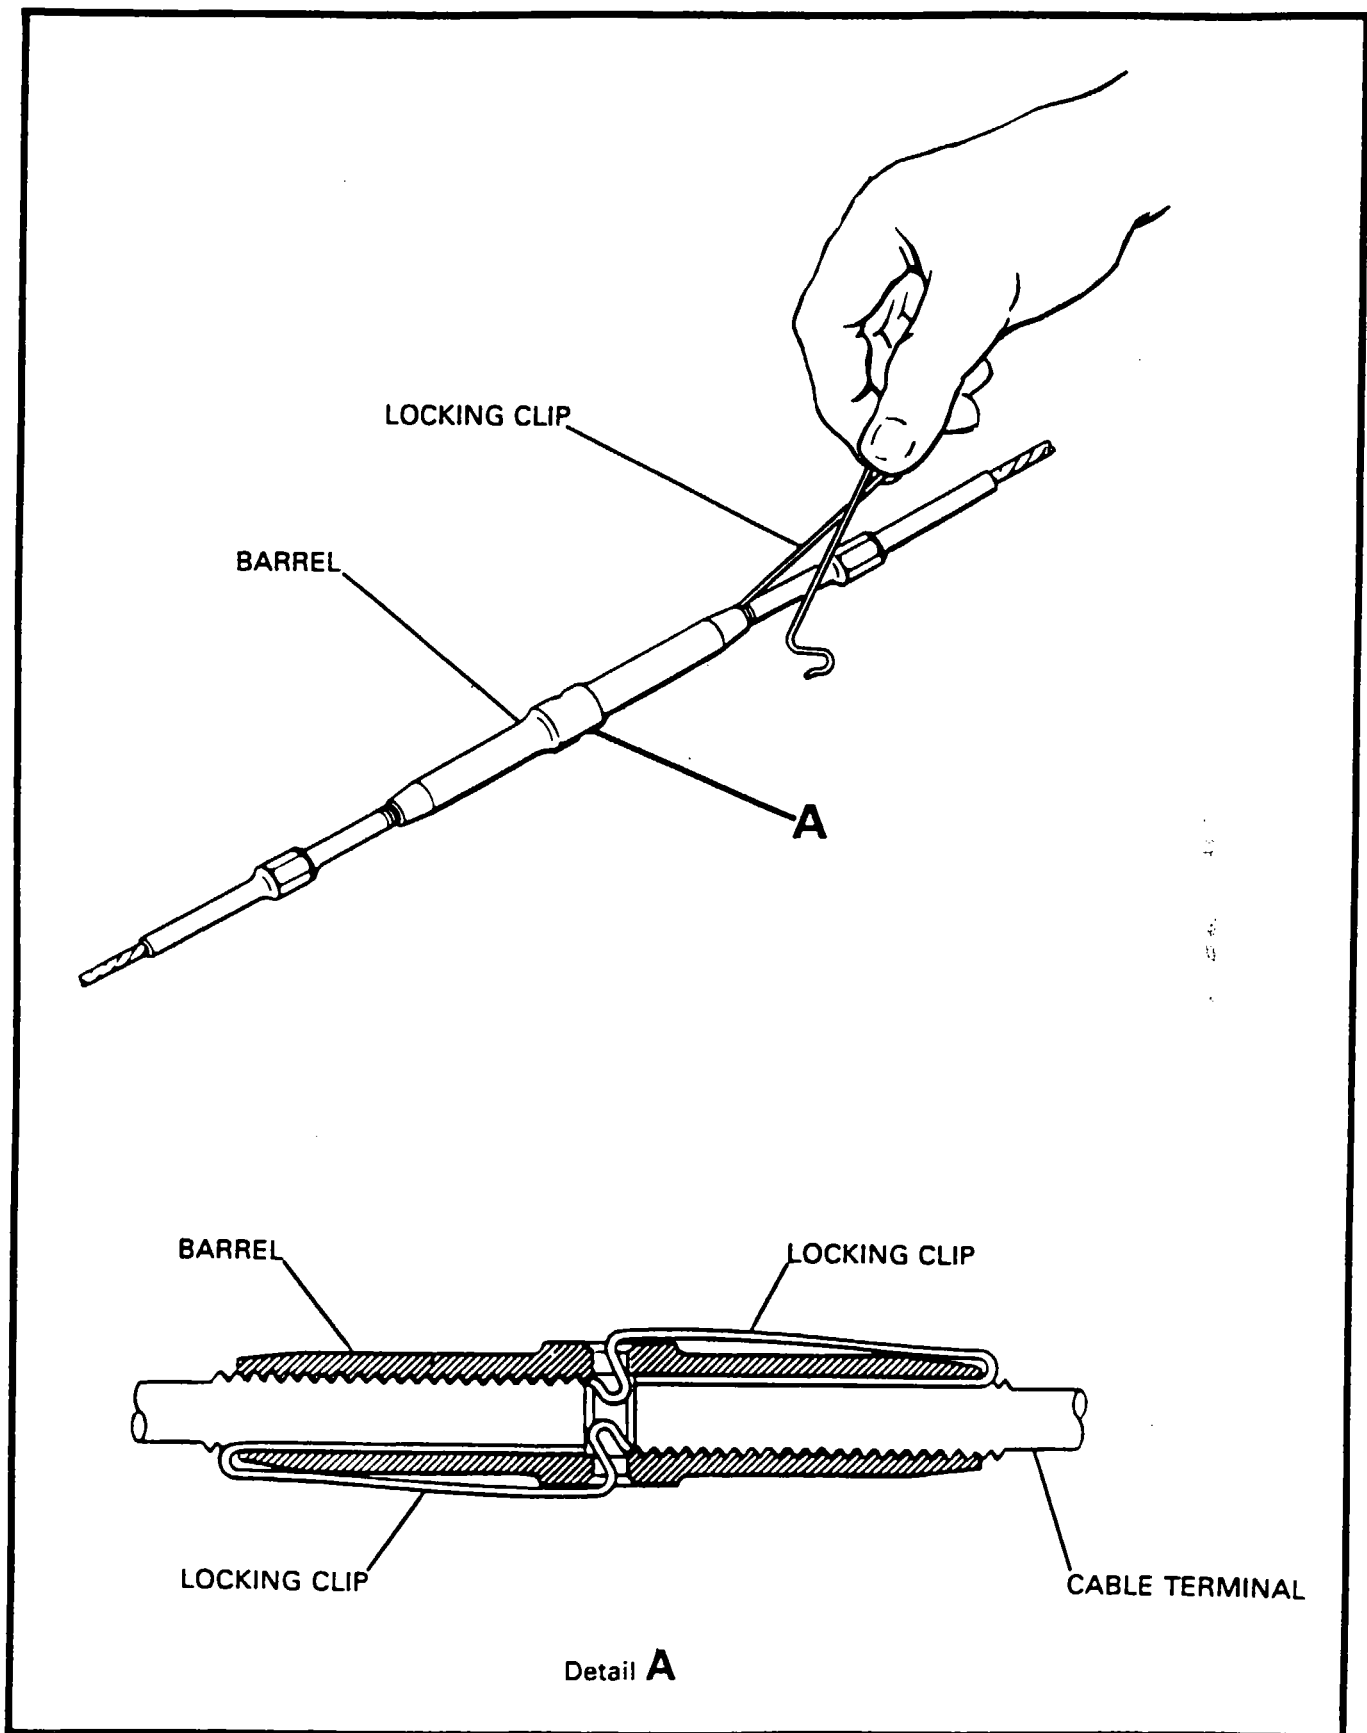

Figure 1-6. Safetying Turnbuckle Assemblies
a. **Safetying Turnbuckles.** (See Figure 1-6.)
2. After turnbuckle has been adjusted to its locking position, with slot indicator groove on terminals and slot indicator notch on body aligned, insert end of locking clip into terminal and body (refer to Figure 1-6) until U-curved end of locking clip is over hole in center of body.